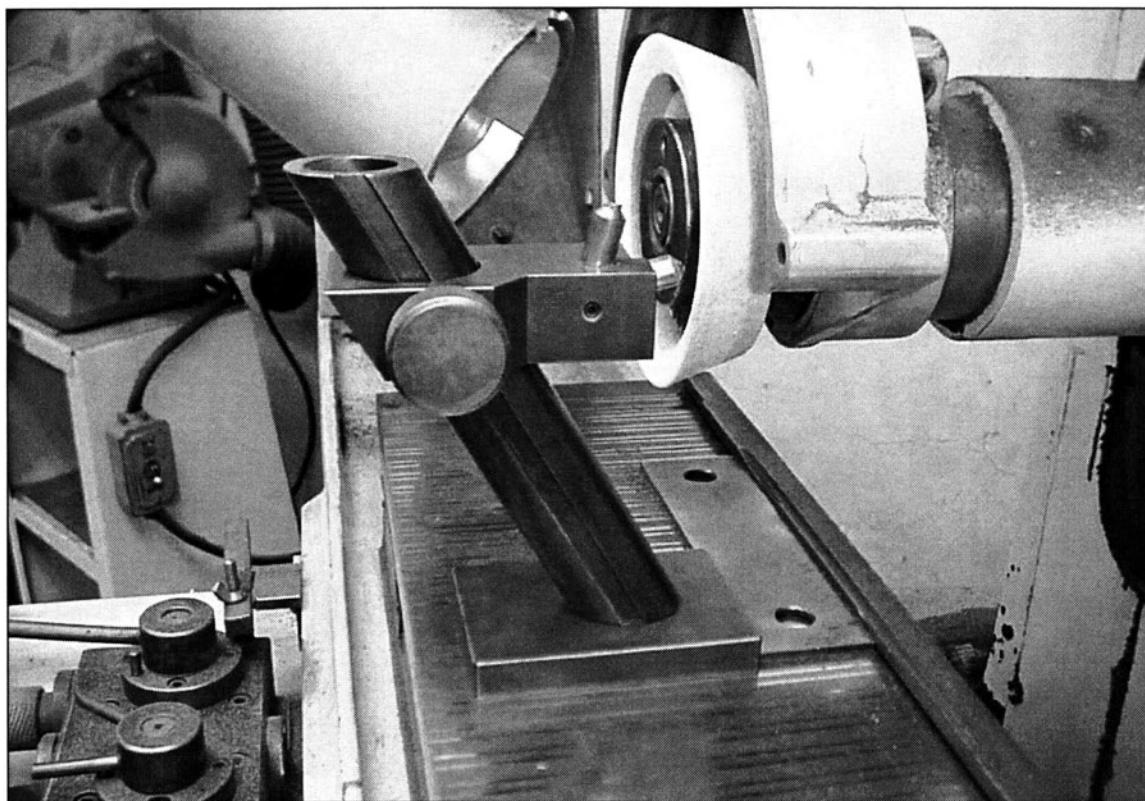

FIGURE 14-15 This versatile wheel dresser has plenty of range and is capable of dressing the sides and bottoms of grinding wheels in a surface grinder.
22. *Use an adjustable wheel dresser for reaching wheels in various positions. (See Fig. 14-15)*